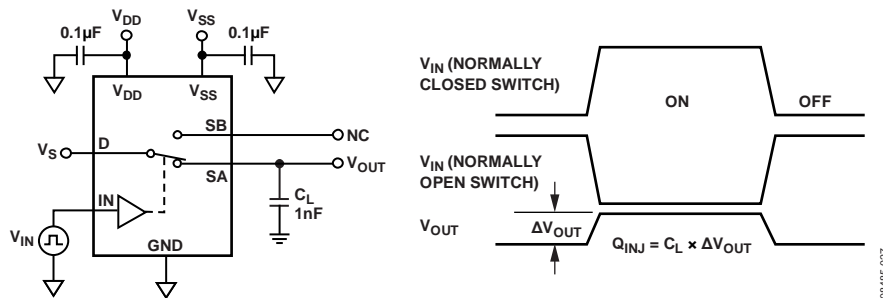

Figure 28. Charge Injection
RFLAT (ON) Flatness is defined as the difference between the maximum and minimum value of on resistance as measured over the specified analog signal range.	Charge Injection A measure of the glitch impulse transferred from the digital input to the analog output during switching. See Figure 28.